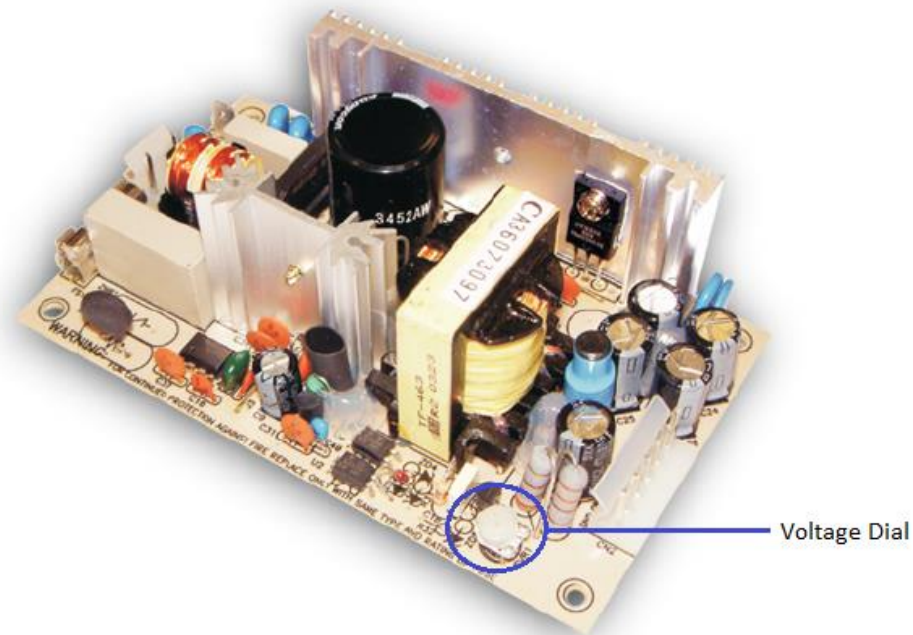

Figure 48 Power Supply
- Voltage Dial mounted on Power Supply (PS) board varies output voltage between 21-28 VDC (See Figure 48)